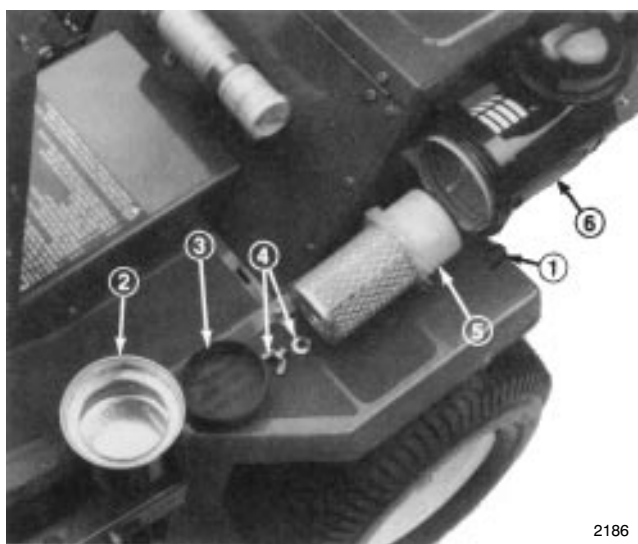

Figure 12
4. Remove wing nut w/gasket and slide filter element out of air cleaner body (Fig. 12).